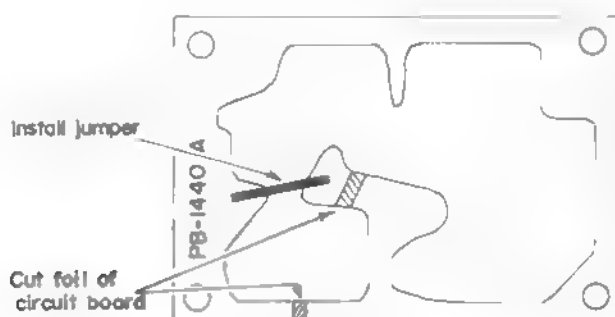

Figure 1
- (1) Refer to Fig. 1, and cut the foil on the VFO UNIT, PB-1440A, at the two points shown. Install the jumper wire shown in the drawing.